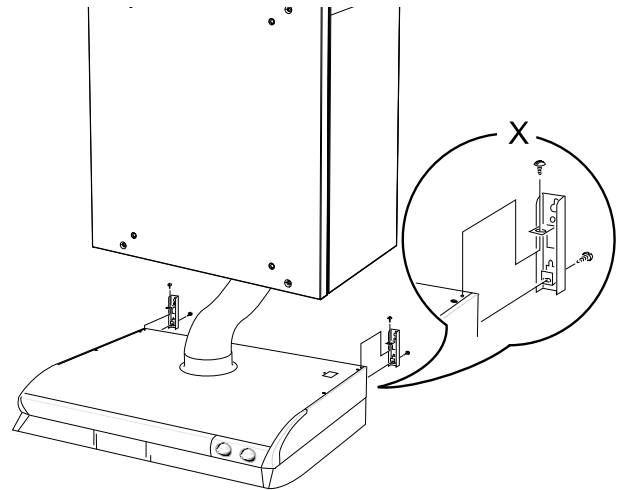

Fig. 1 Installation of the cooker hood
1. Connect the cooker hood to the unit via a flexible duct. Use mounting mechanism which is delivered together with the cooker hood (figure 1, pos. X).